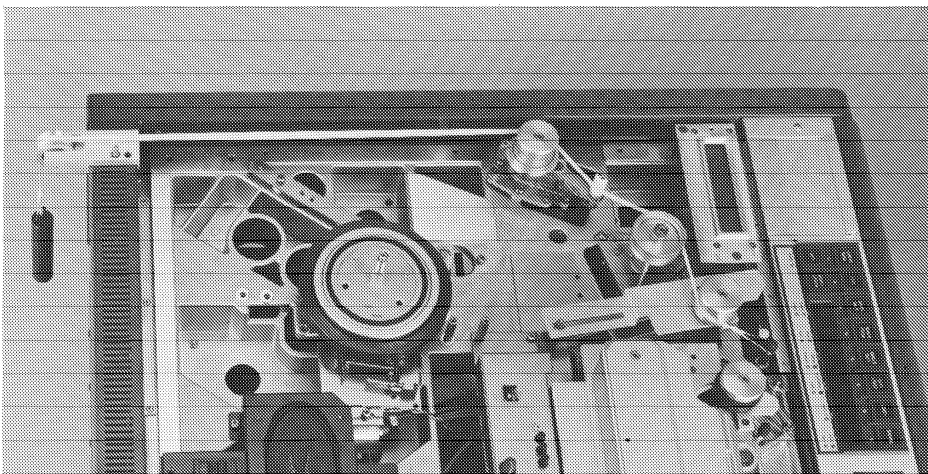

Fig. 6
- Install adjusting device (part No 10.010.001.31 also used for A820 1/4", 1/2") on the tape transport according to Fig. 6.
- Loosen locknut (B) of threaded pin (C).
- * Adjust the voltage to 200mV +/- 30mV by turning the threaded pin (C) (voltage increases when turning out the threaded pin).
- * Tighten the locknut (B), the voltage must remain between the indicated limits.
- * Adjust the voltage 2.2V +/- 50mV by turning the adjusting pin (D) (voltage rises when the spring is elongated)